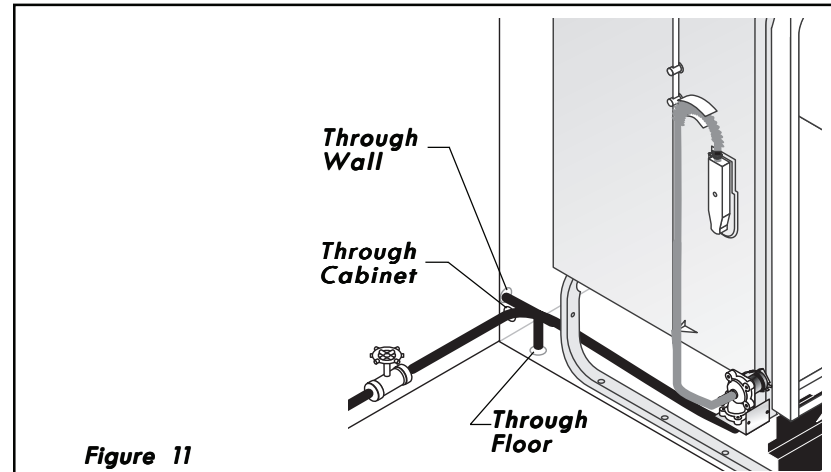

Figure 11
2. Route water line to water inlet valve as shown in Figure 11. While firmly pulling water supply line into 90° elbow, tightly connect water supply to water inlet valve. Supply line must be free of kinks, scales, chips, and lubricants.
5. If water inlet valve clogs, make sure water supply is off. If using a $\frac{3}{8}$ " NPT valve, remove four (4) screws at the inlet end of the valve and clean filter screen. If using $\frac{3}{4}$ " hose thread fitting simply clean filter screen.